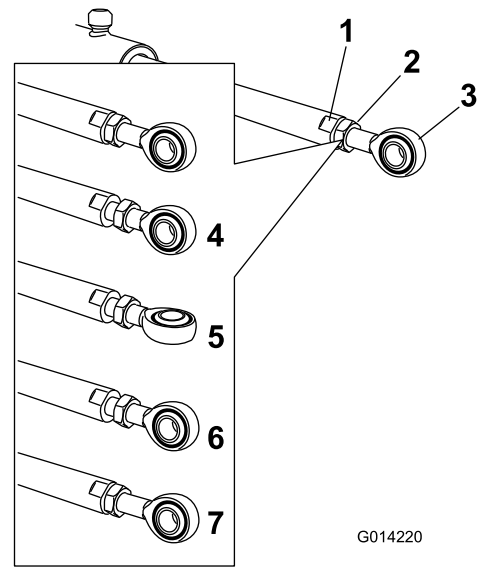

Figure 100
5. Use a wrench on the flat sides of the actuator rod to immobilize it, then loosen the jam nut to allow the eyelet rod to be adjusted (Figure 100).
6. Turn the eyelet rod in the actuator rod to shorten or lengthen the extended actuator to the desired position (Figure 100).